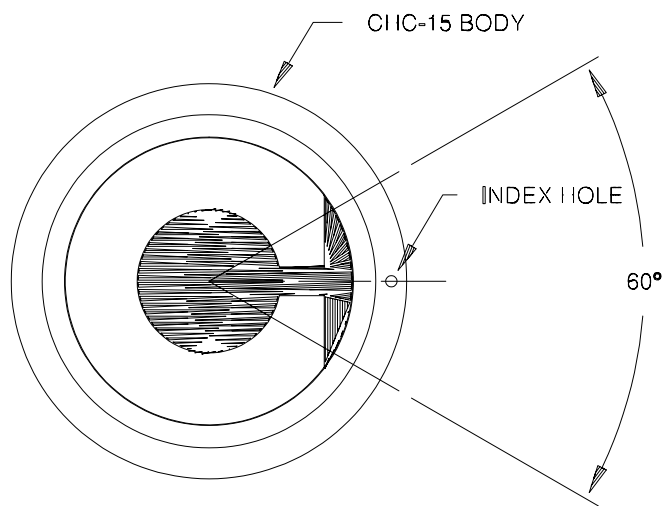

Figure 4 Crystal Installation
4. Then insert the Crystal with the Front Side (Sensing Electrode) exposed. The "Wrap-around Extended Electrode" MUST be in the 60° region as in Figure 4 below.